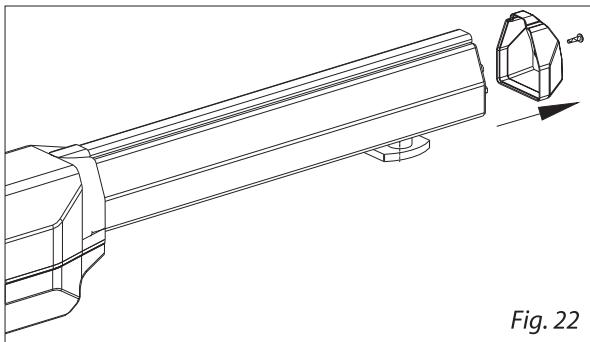

Fig. 22
- 1) Unscrew both front cover screws of the front cap and remove the cover, (Fig.22).